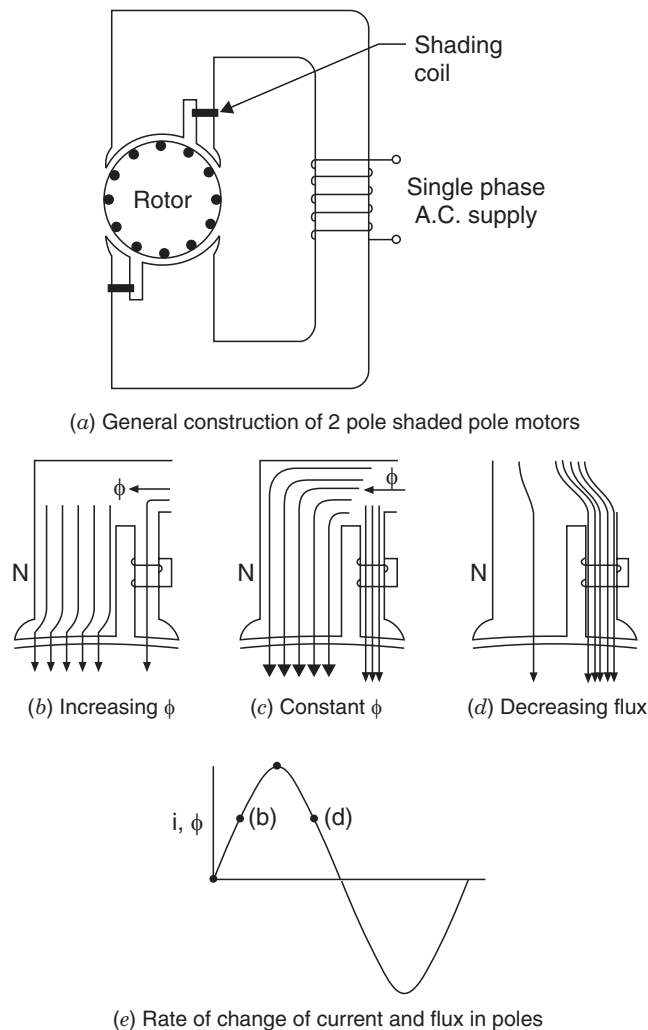

Fig. 8. General construction and principle of shaded pole motor.
Fig. 8 shows the *general construction and principle of shaded pole motor*.
- Refer Fig. 8 (b). When the flux in the field poles tend to increase, a short-circuit current is induced in the shading coil, which by Lenz's law opposes the force and the flux producing it. Thus, as the flux increases in each field pole, there is a *concentration of flux in the main segment of each pole*, while the shaded segment opposes the main field flux.
- At point (c) shown in Fig. 8 (e), the rate of change of flux and of current is zero, and there is no voltage induced in the shaded coil. Consequently, the *flux is uniformly distributed across the poles* [Fig. 8 (c)].
- When the flux decreases, the current reverses in the shaded coil to maintain the flux in the same direction. The result is that the flux crowds in the *shaded segment of the pole* [Fig. 8 (d)]